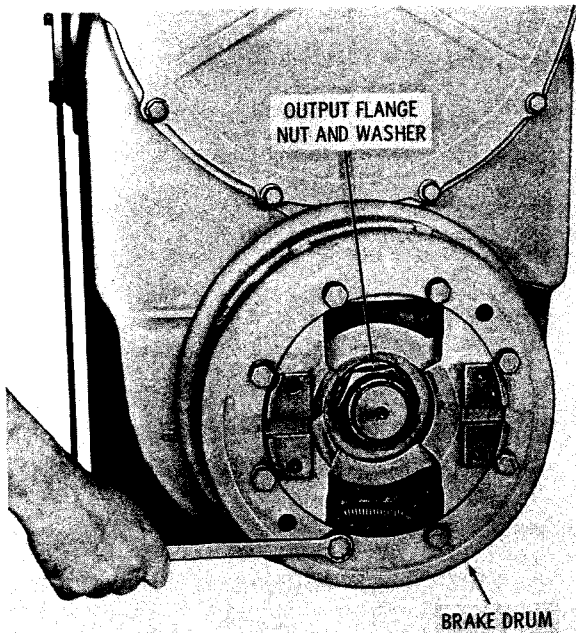

Fig. 7-42. Installing parking brake drum
(5) Install the brake drum and retain it with eight 1/2-20 x 1-inch bolts and lockwashers (fig. 7-42). Tighten these bolts to 83-100 lb ft (113-135 N·m). Refer to paragraph 3-8d for brake adjustment procedures.